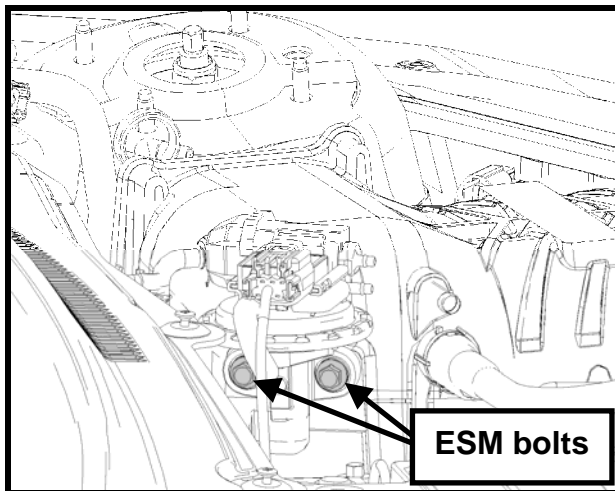
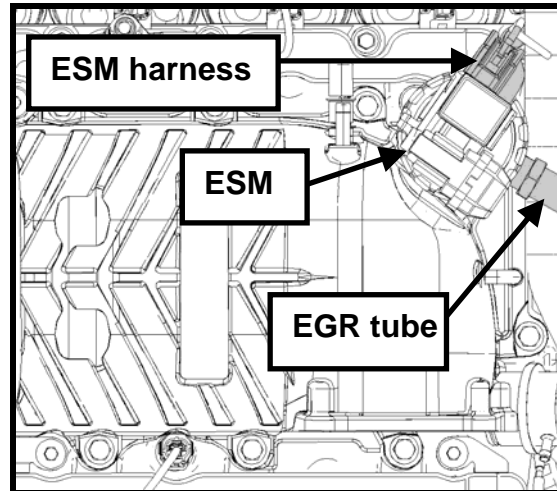

Fig. 22
Fig. 23
**STEP 7:** Apply a thread sealing compound to the stock EGR bolts. Install the ESM and torque the bolts to 25 Nm (221 lb in) (See Fig. 22). Connect ESM electrical harness and the EGR tube (See Fig. 23). Torque the EGR tube to 35 Nm (309 lb in)